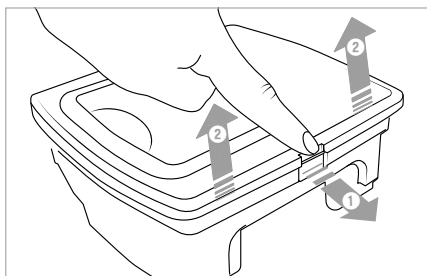

Fig. 9
- Open the latch on the lid of the dust container **14** and flip it up (see Fig. 9).